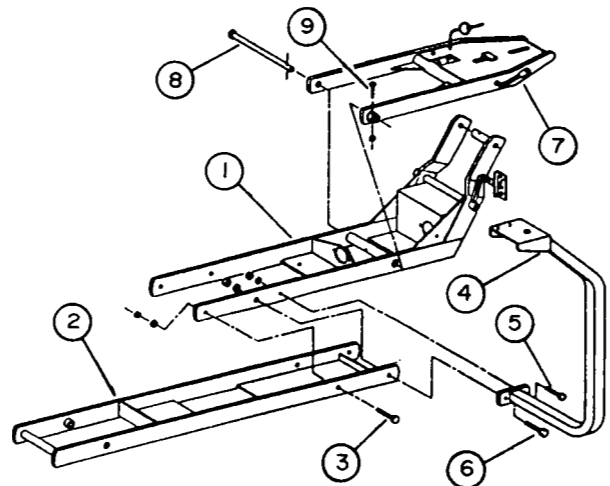

FIGURE 1
- a) Assemble front section (fig.1, item 1) and rear section (fig.1, item 2) of the subframe together, using three  $5/8"$  x  $1\ 3/4"$  bolts (fig.1, item 3), lockwashers and nuts. Tighten securely.
- b) Attach valve support (fig.1, item 4) to right hand side of subframe using one  $1/2"$  x  $1\ 3/4"$  bolts (fig.1, item 5), lockwasher and nut in front hole and a  $5/8"$  x  $2\ 1/2"$  bolt (fig.1, item 6), lockwasher and nut. Tighten securely.
- c) Attach male quick hitch (fig.1, item 7) to subframe (fig.1, item 1) by inserting the  $3/4"$  x  $11\ 13/16"$  pin (fig.1, item 8) through the left hand side of the quick hitch and through the subframe front section. Lock the pin in place on right hand side of subframe using a  $5/16"$  x  $1\ 3/4"$  bolt (fig.1, item 9) and nylon nut. Tighten securely.
- c) Thread both handles on valve(simultaneously) as in figure 1 on page 24. Tighten nuts.